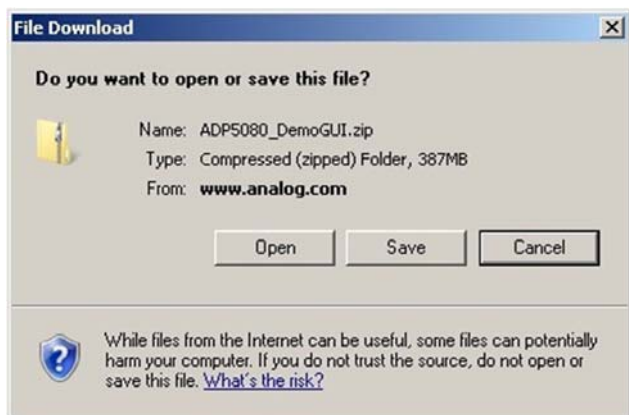

Figure 9. File Download Window
2. Click **Save**, to save the **ADP5080_DemoGUI.zip** file to the desktop (see Figure 9).